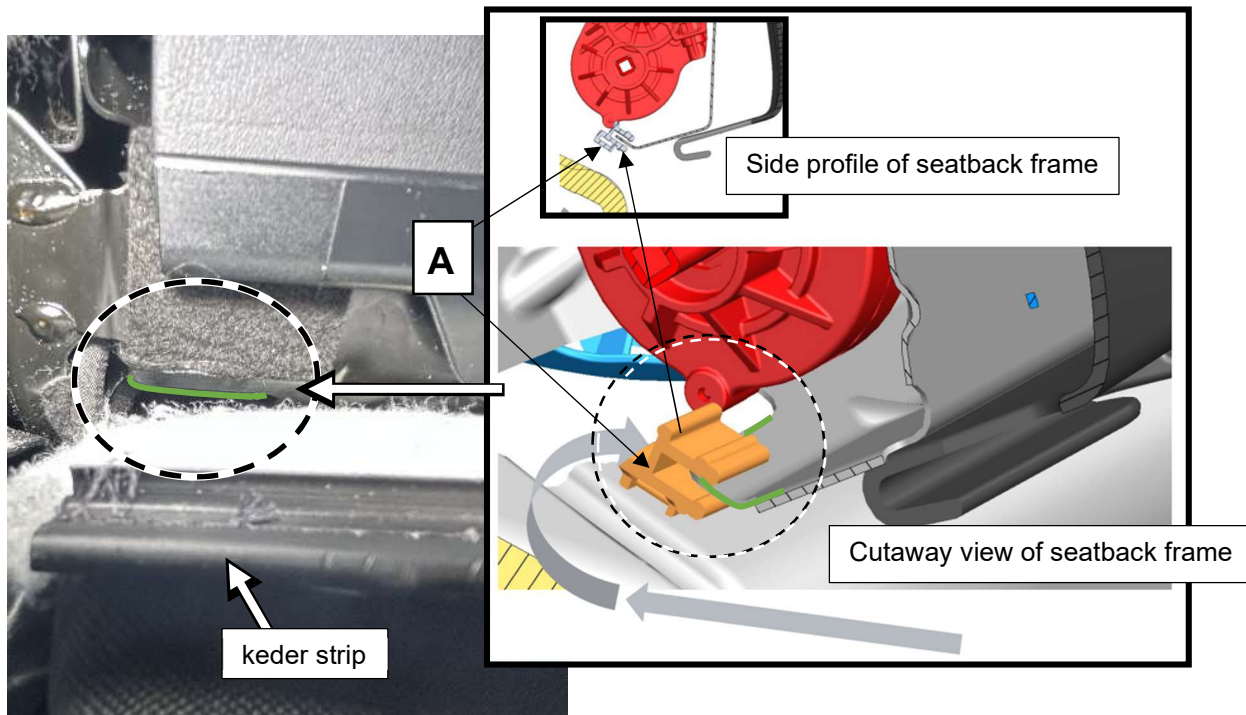
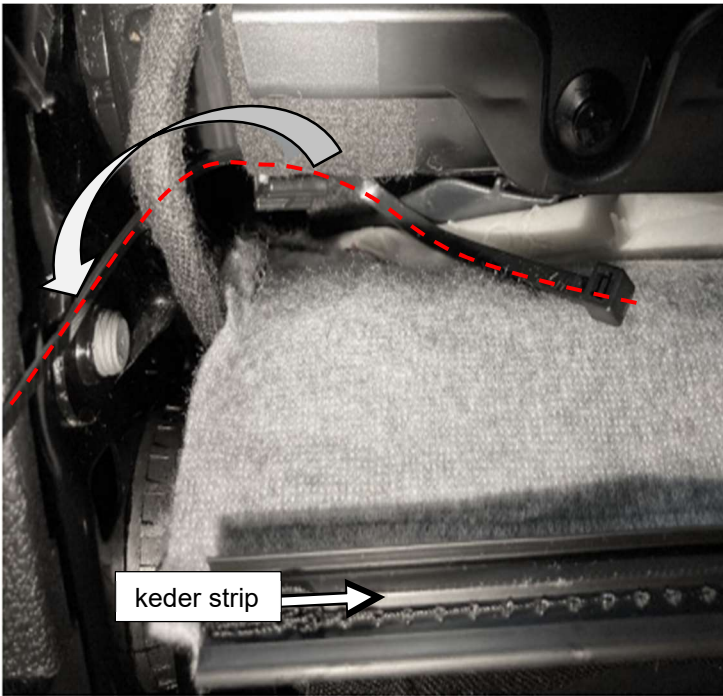

Figure 5 – fastening clip is secured to sheet metal area without felt (Figure 5, green outline).
Figure 6 – cable tie routed through fastening clip eyelet.
1. Attach a cable tie with fastening clip to secure the wiring harness to the seat backrest frame. The seat backrest frame sheet metal has felt applied, and a section measuring 2-3mm **without felt** (Figure 5, green outline). Attach the fastening clip (Figure 5, A) flush to the outer edge of the sheet metal without felt and secure it flush against the sheet metal in the direction shown (Figure 5 and 6).
**NOTE:** The cable tie (Figure 6, red dashed line) is routed behind the seat backrest frame, through the eyelet of the fastening clip (Figure 5, A), and around the seat wiring harness to secure it from damage.